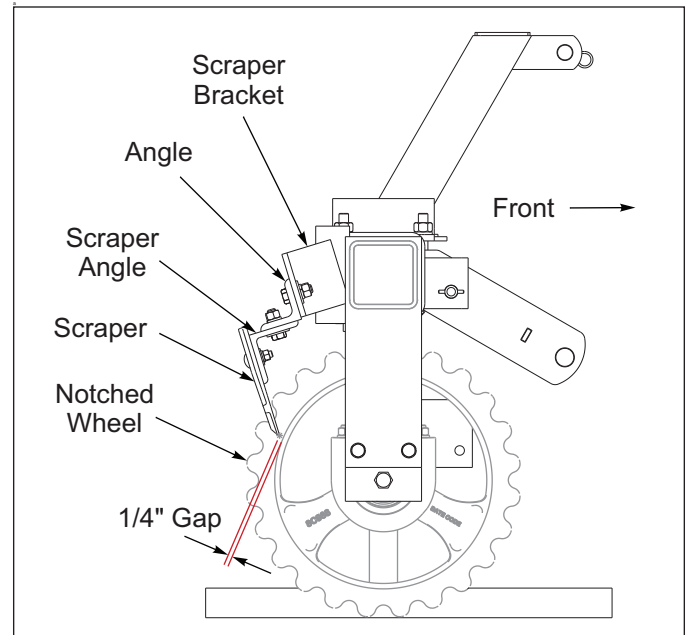

Figure 2-7: Scraper Kit Detail
2. Attach short Angles to the Scraper Angle with 1/2-13 x 1-1/2 Bolts, Flat Washers, Lock Washers, and Nuts. **See Figures 2-7 and 2-8.**
5. Center the Scrapers between the Notched Wheels. Position the Scrapers so that there is a 1/4" gap between the Scraper and the Notched Wheel. **See Figure 2-7.** Secure with 3/8-16 x 1-1/2 Carriage Bolts, Flat Washers, Lock Washers, and Nuts.